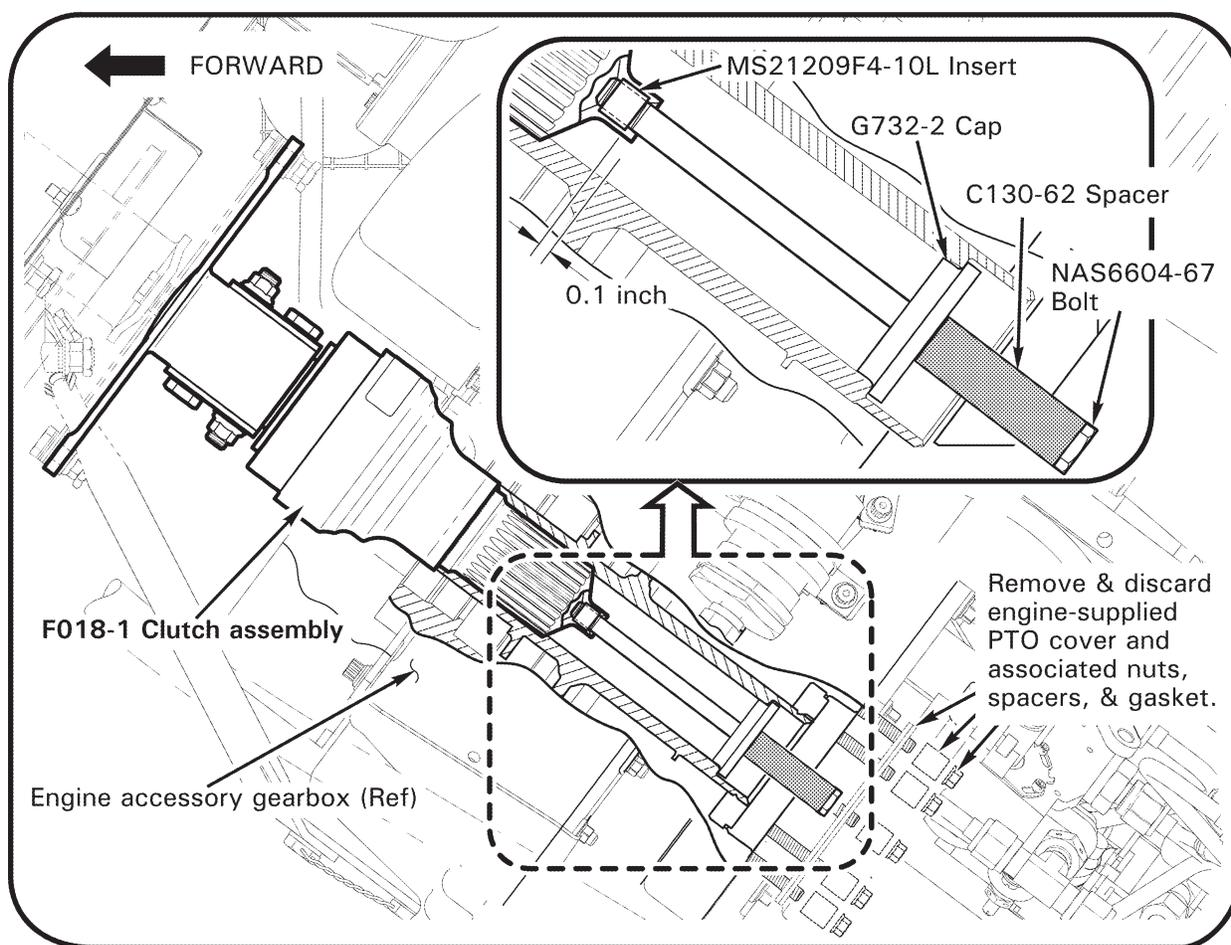

FIGURE 1
1. Remove engine cowling per R66 Maintenance Manual (MM) § 53-21.
2. Refer to Figure 1. If installed, remove and discard engine-supplied PTO cover and associated nuts, spacers, and gasket.